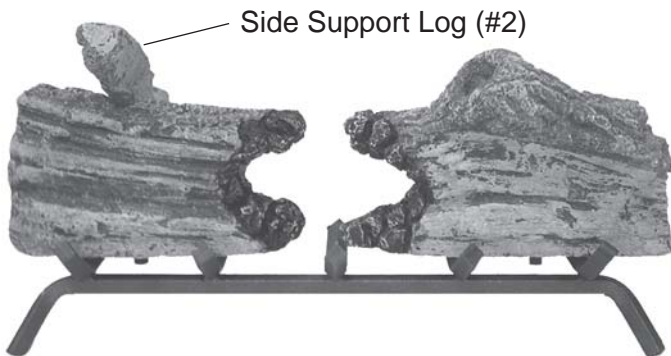

Figure 104 - Placing Side Support Log (#2) on Top Left of Log #1A
4. Place front end of Side Support Log #2 on top left of Log #1A. Rest other end of Log #2 on rear grate bar. *See Figure 104.*